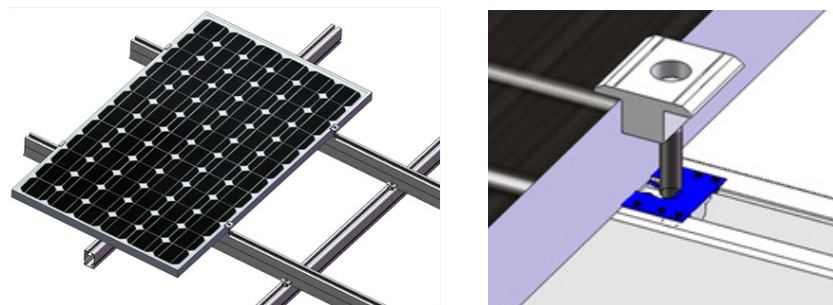

Fig. 24
Step 2 Slightly lift the PV Module and slide the Inter Clamps and Grounding Clips into position. The teeth on Grounding Clip will be automatically aligned when the Inter Clamp is properly installed as shown in Fig. 24.